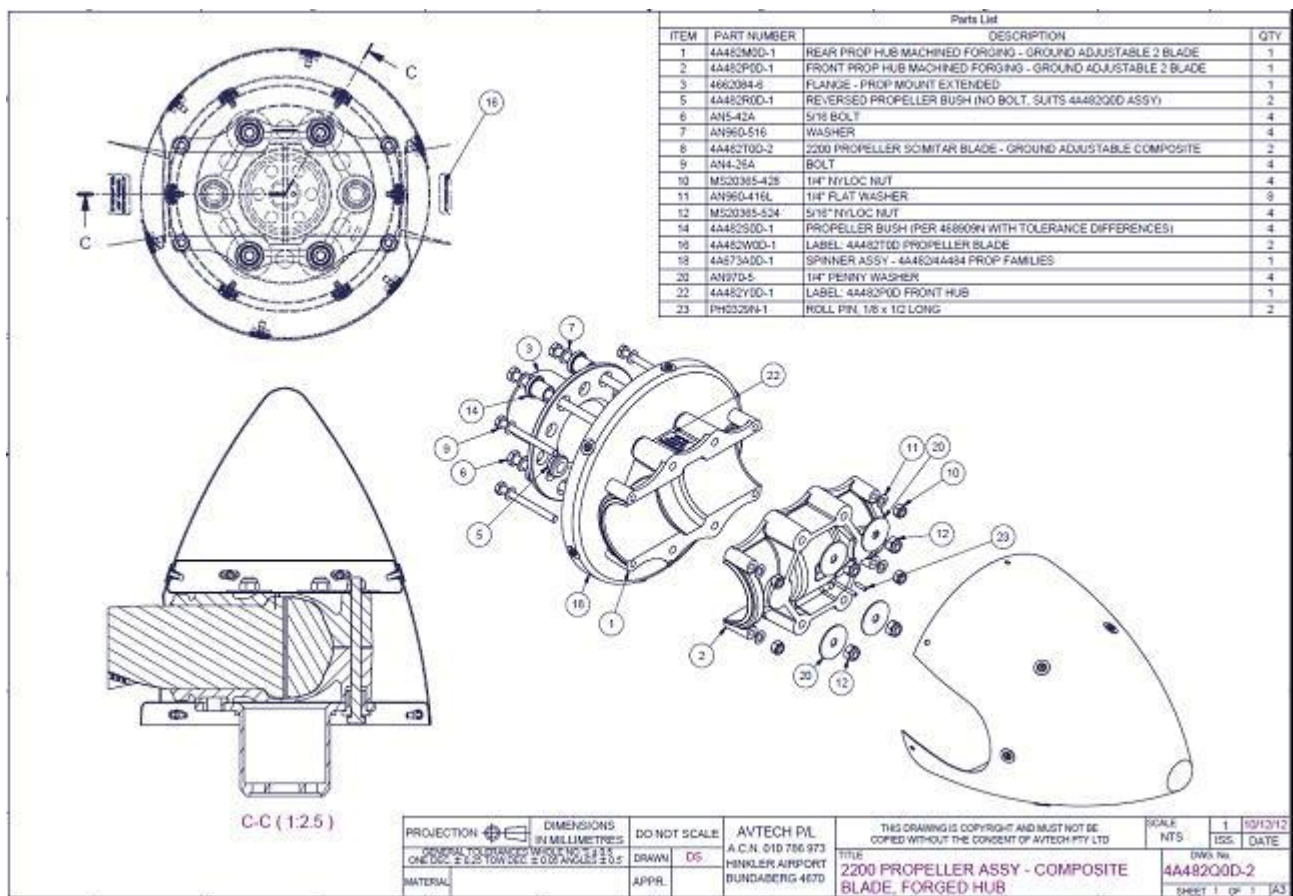

Figure 9 – Typical Propeller Installation
Figure 9 shows a typical propeller installation.
- Figure 9 shows typical propeller installation details.